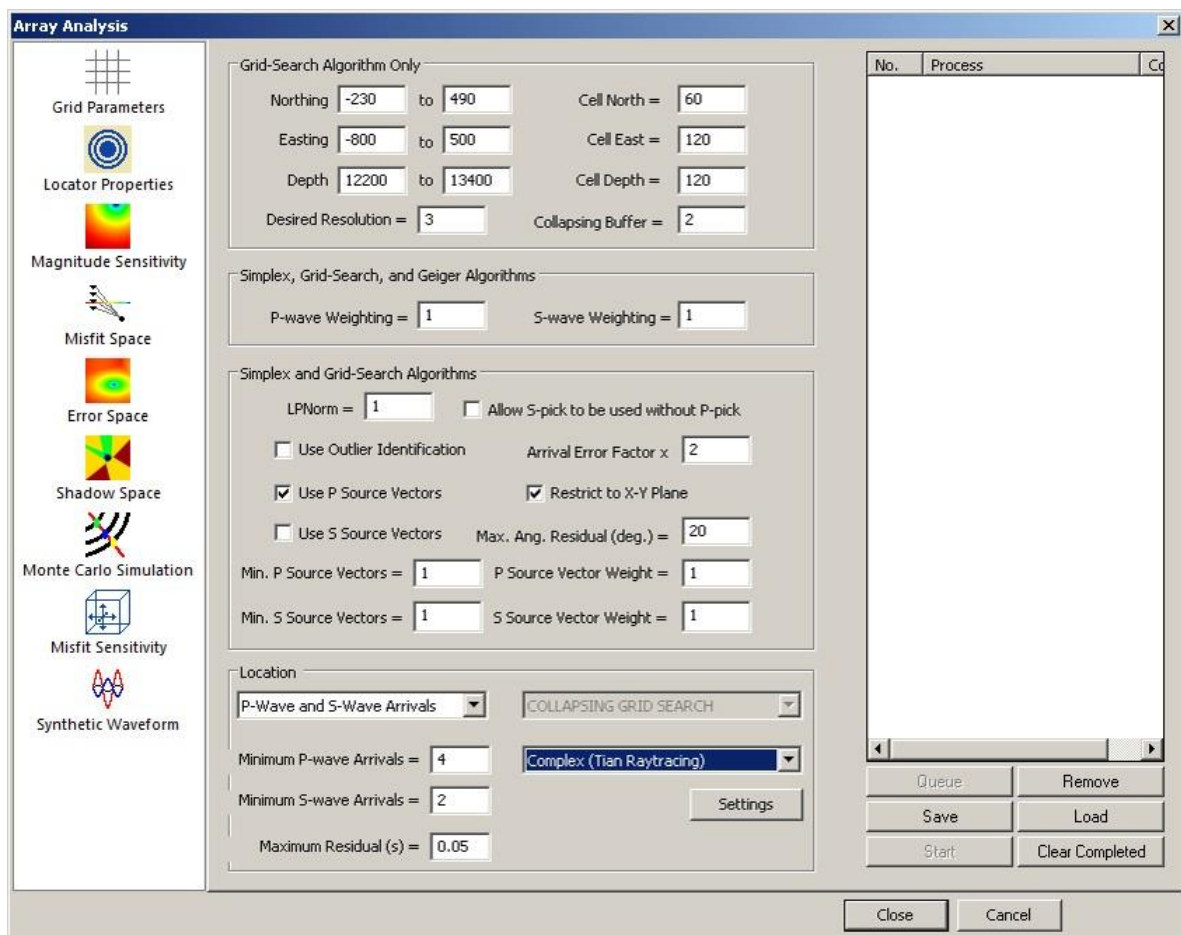

Figure 16-3: Array analysis locator properties tab.
- **Locator Properties** - Contains all the input parameters for the location algorithm (Figure 16-3).